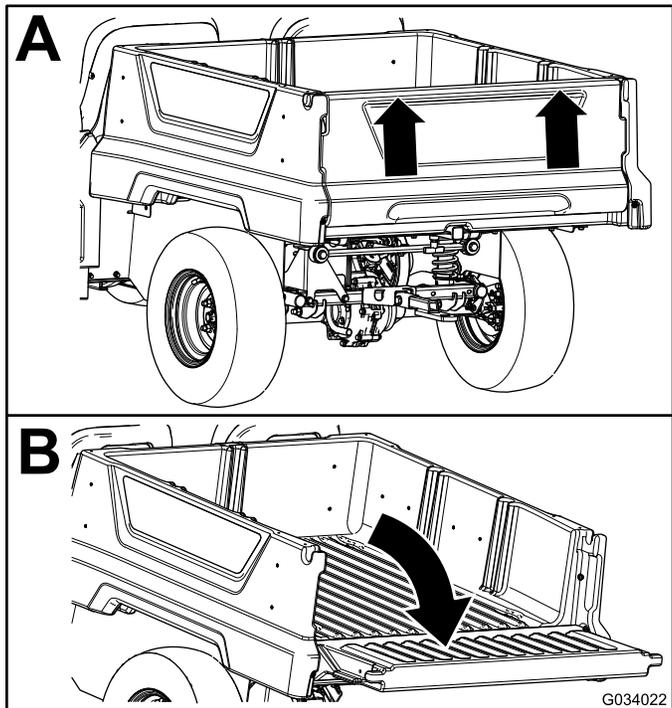

Figure 13
2. Using both hands, raise the tailgate using the ridge near the top of the tailgate (Figure 13).
3. Lower the tailgate until it is flush with the bottom of the cargo bed (Figure 13).